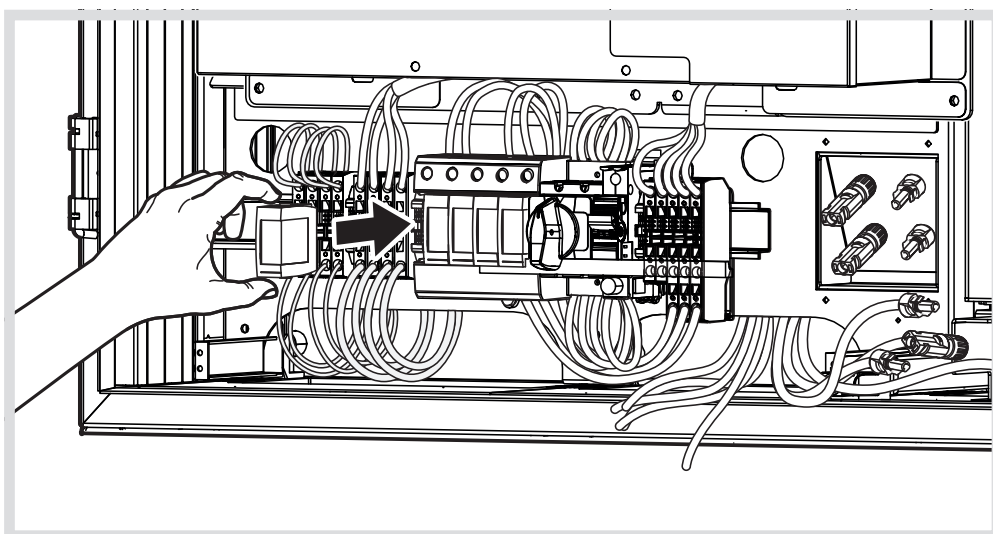

Figure 25: DEHNguard PV SCI 500 installation
- Push the four DEHNguard PV SCI 500 into the four overvoltage protection modules mounting devices on the left and right until they click into place (Figure 25).